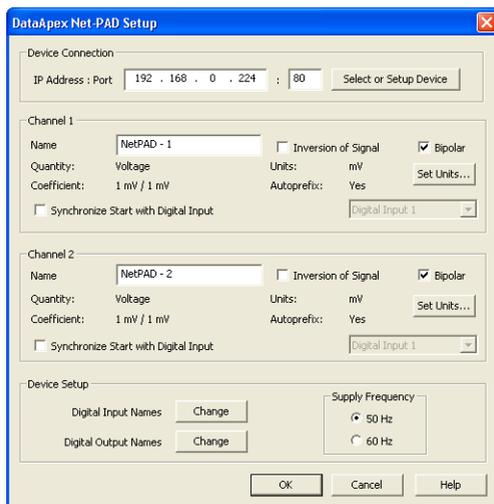

Fig. 14: DataApex Net-PAD Setup dialog
- In dialog described in the **Fig. 14** on pg. **18**, use the *Select or Setup Device* button.